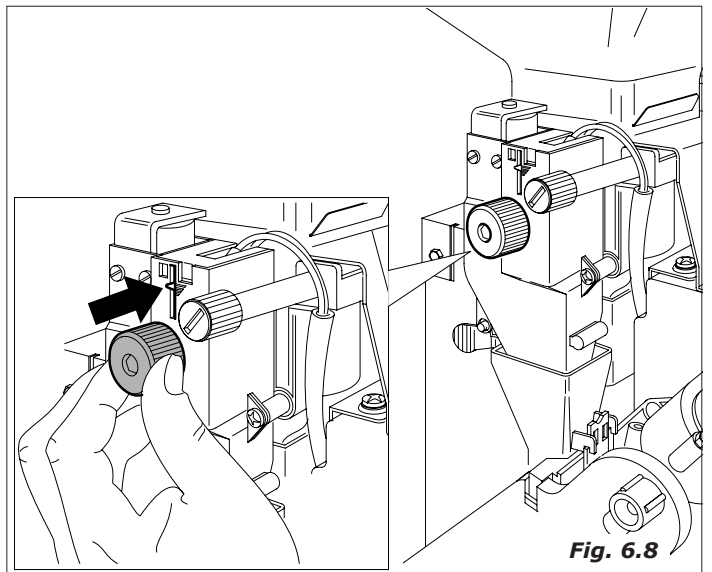

Fig. 6.8
- **Ground coffee gram weighting:** vary the quantity using the knob positioned on the measuring device (Fig.6.8).
The variation in the product can be controlled by means of the reference notches on the body of the measuring unit (see figure 6.8)